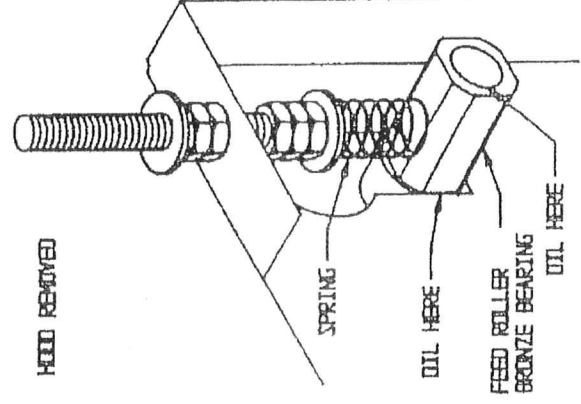

Fig. A-12
2. Oil feed roller bronze bushings with 2 - 4 drops on the side of the bronze bushing where it touches the machine frame, and where the shaft goes through the bushing every 20 hours of operation (see fig. A-12). Oil more often under severe use.